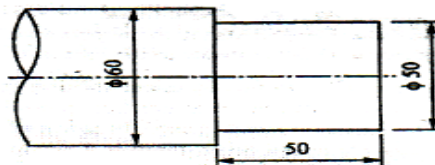

Fig. 3
- b) Write a manual part program to finish the stepped shaft as shown in Fig. 3 and the tool path is shown in Fig. 4. Assume spindle speed as 400 rpm and feed rate as 0.5 mm/rev. [8]